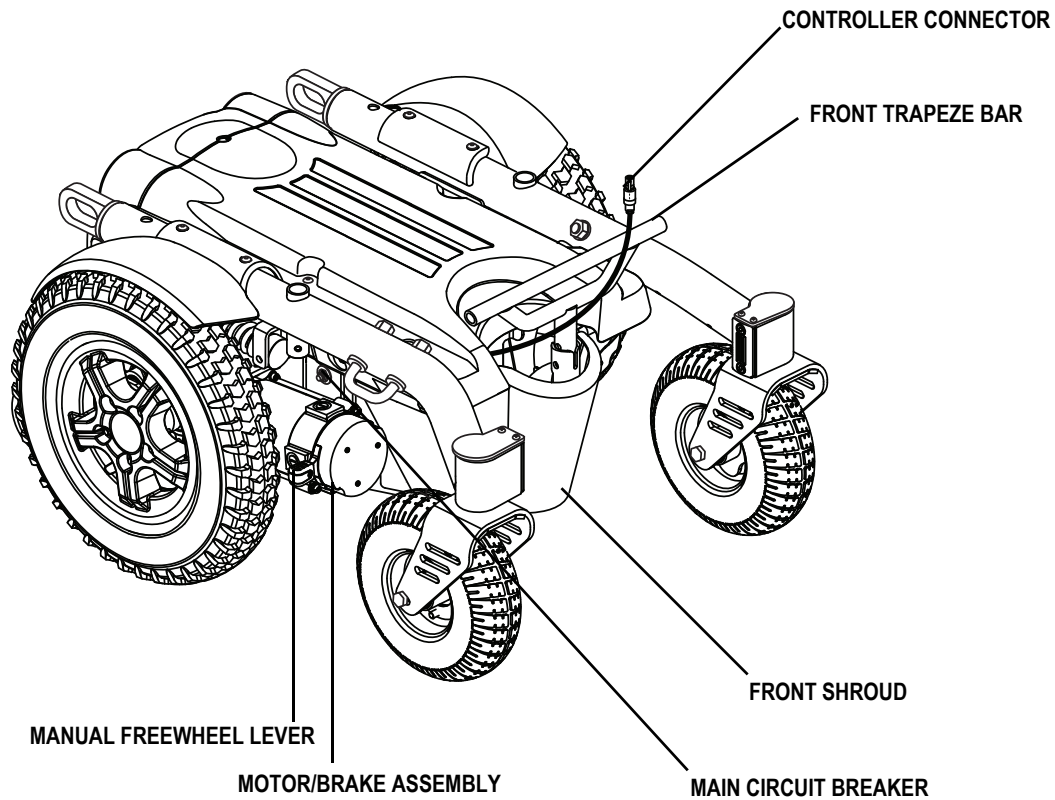

Figure 6. The Athena Power Base
The electrical components are located on the front or rear of the power base, depending on how your power chair is equipped. See figure 6.
Controller Connector: This is where the controller connects to the power base. The controller connector is located at the front or rear of the power base. See figure 6 or 7.
3. Plug the controller harness into the connector. See figure 6.